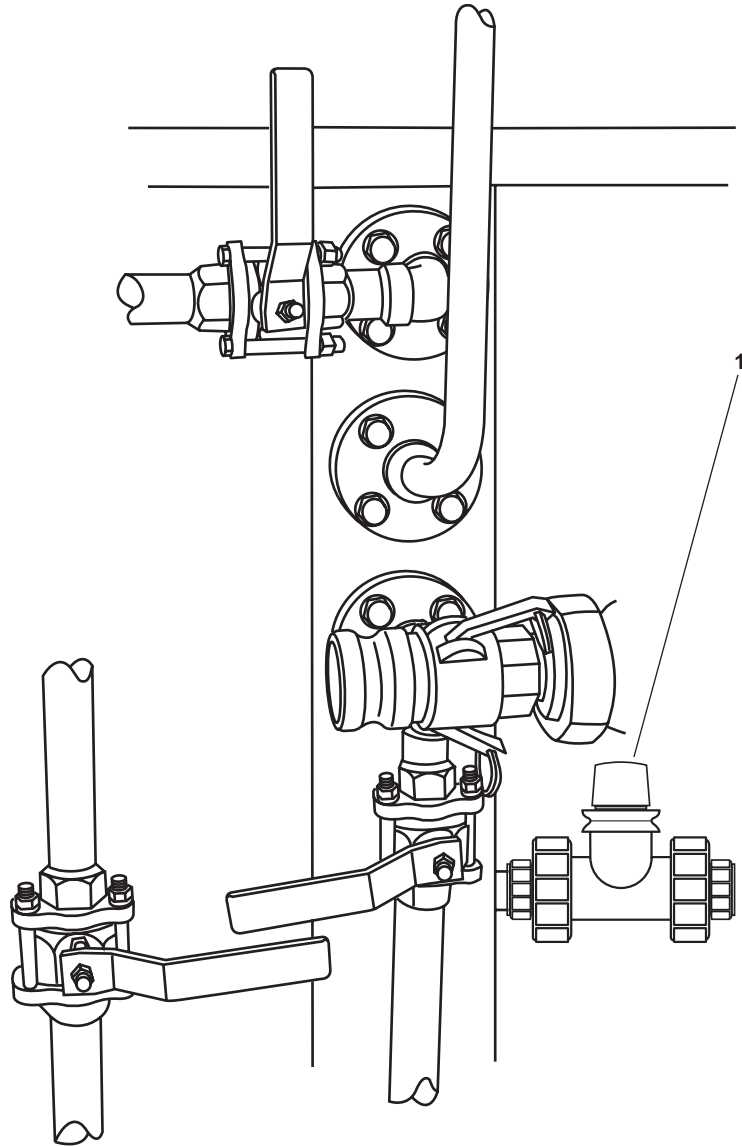

Figure 1. Media Filter Drain Valve
1. OPEN RO-V-11, media filter drain valve (figure 1, item 1) and permit the filter tank to drain to the port shaft alley. Allow time for the water in the media filter to fully drain before continuing with the procedure.
1. CLOSE RO-V-11, media filter drain valve (figure 1, item 1).